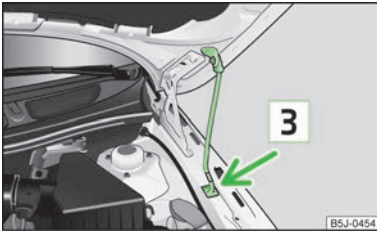

Fig. 114
- Take the bonnet support out of its holder and secure the opened bonnet by inserting the end of the support in the opening **3** » Fig. 114 designed for it.